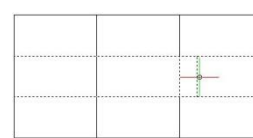

Fig 23
3. Specify the place or distance to drag (left is positive). (Fig23)